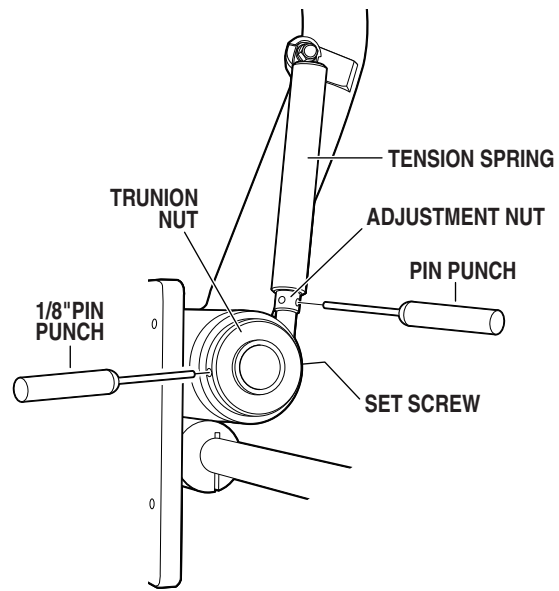

Figure 14.
g. Check the adjustment for the flatscreen monitor pitch axis. The monitor should move freely yet maintain its selected position without drifting. If an adjustment is necessary, refer to figure 14 and proceed as follows: